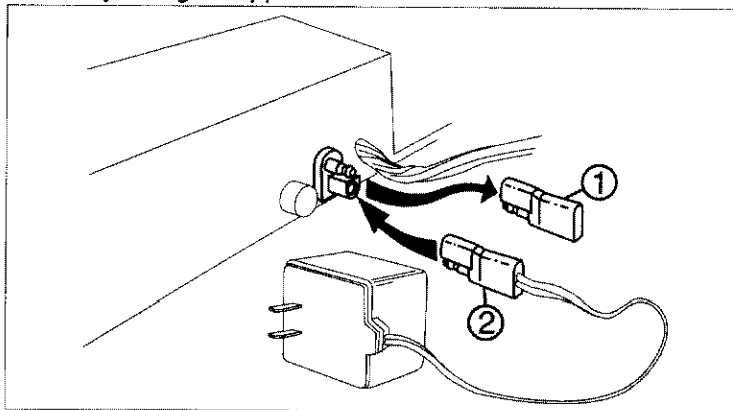

Figure 8
To charge the battery, first remove the protective cap (1) from the end of the battery pack lead. Always plug charger lead (2) into battery pack lead before inserting battery charger plug into 120 volt standard household outlet. See Figure 8.